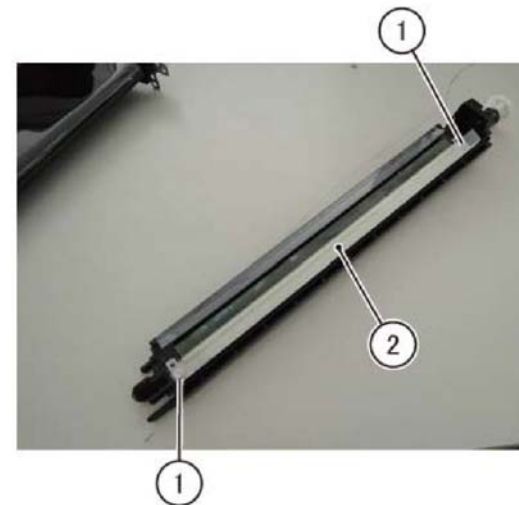

Figure 2 Blade assembly
5. Remove two screws (1) and remove the blade assembly (2), Figure 2.